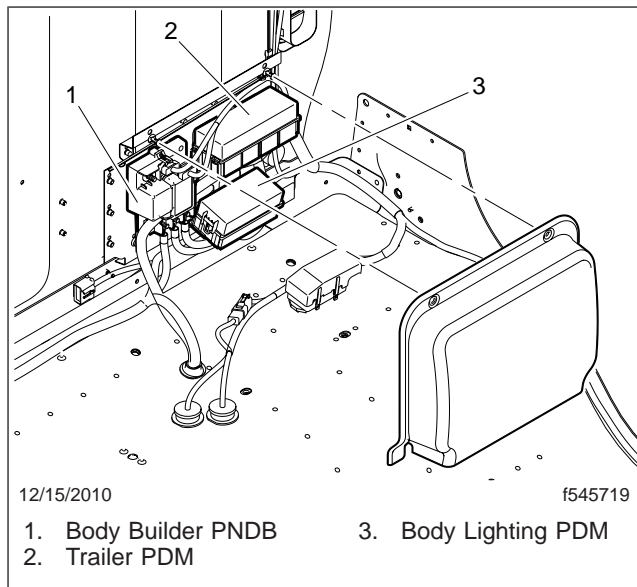

Fig. 1, Power Distribution Modules
2. Open the cover and remove the two retaining clips. See **Fig. 1**.